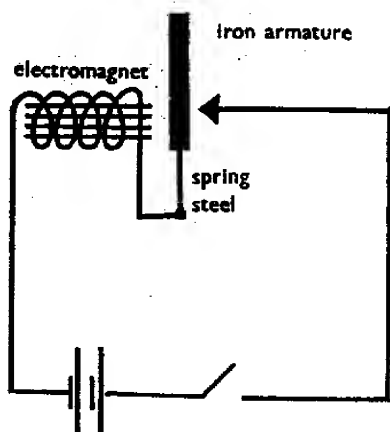

Fig. 318
An electro-magnet consists of a coil of wire wound round an iron core. Fig. 318 shows such a magnet used to operate a buzzer or electric bell. The spring steel holds the armature against the contact when the switch is open. Can you explain how it operates when the switch is closed? (4) Buzzer kits are available commercially.₁₂